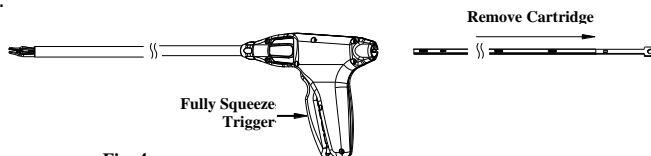

Fig. 4
1. Remove and discard the disposable clip cartridge by fully squeezing the trigger against the handle as shown on Fig.4. If all 19 clips have not been fired squeezing the handle and removing the cartridge will engage and release 1 clip. In this case, make sure to fire the engaged clip onto something such as a drape so that the contaminated clip does not fall onto the floor, stick to the jaws or fall inside the instrument shaft potentially causing a jam or safety hazard. *(This step serves as a warning note on the "Cleaning and Sterilization" steps. Microline PENTAX shall not be responsible of any damages occurring as a result of a non-compliance with this warning.*